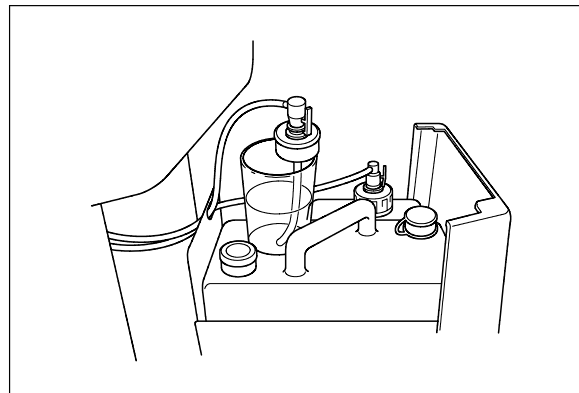

Figure 7.79
8. Put the detached cap in the container of the disinfectant solution (see Figure 7.79).
12. To drain off the disinfectant solution inside of the pipe, connect the tube attached to the syringe to the detergent nozzle and suction the disinfectant solution with the syringe until the disinfectant solution does not come out of the pipe (see Figure 7.79).